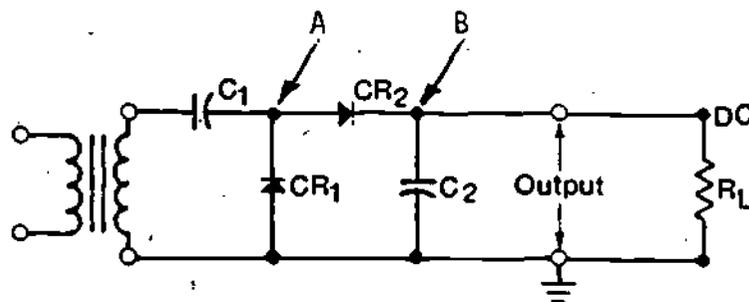

Figure 1
1. When identical voltages are measured to common at two points in a circuit, the points are probably shorted together, or connected by a straight wire. See Figure 1.